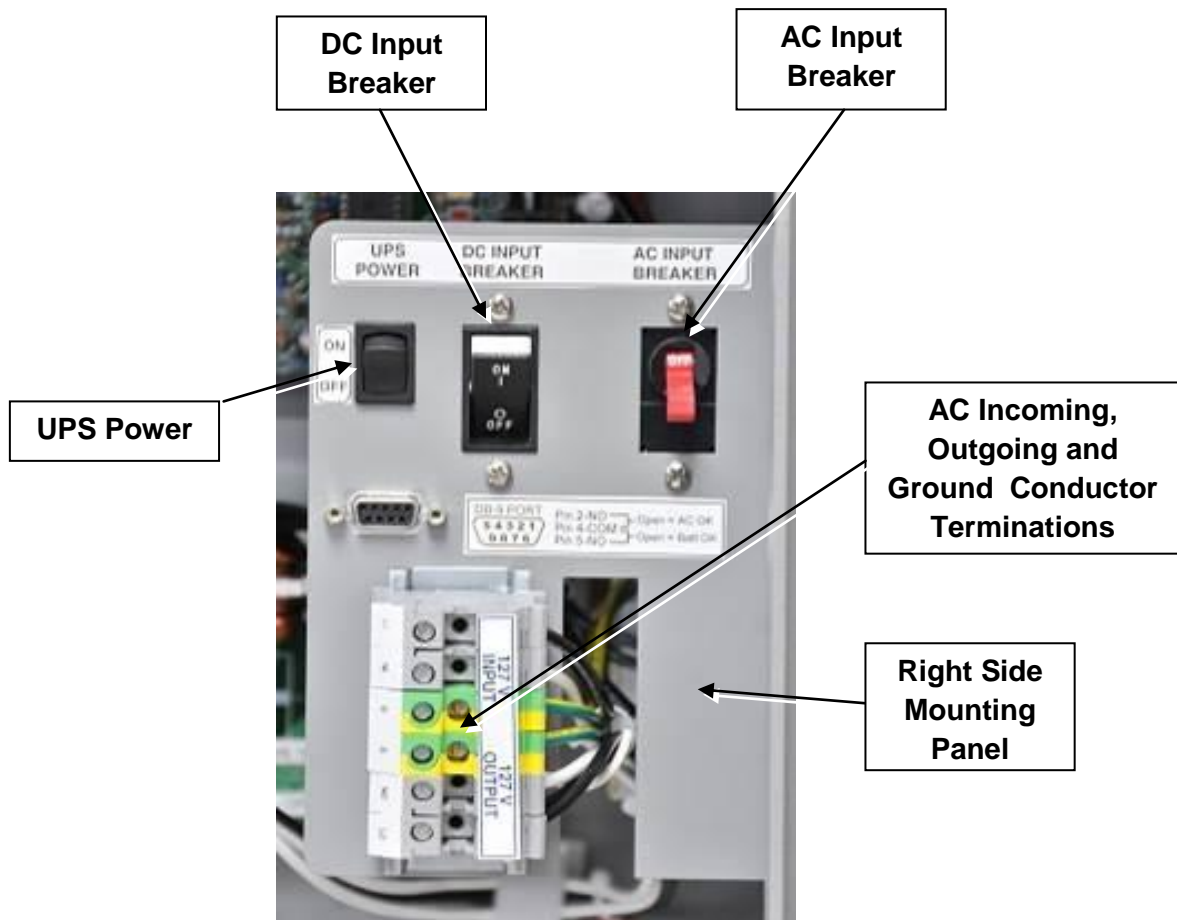

Figure 12: Incoming & Outgoing Wire Terminations
- Check **UPS Power** switch, **AC Input Breaker** and **DC Input Breaker** are in the **off** position (see Figure 12),
- 5.15** Strip approximately 3/8" (9.52 mm) insulation from the end of each of the six (6) incoming / outgoing AC wires and terminate them in the wiring terminals located on the right side of the cabinet (see Figure 12).
- 5.16** Terminate the incoming wires on the terminals marked as shown in Figure 12 and as follows:
- 5.17** Terminate the outgoing wires on the terminals marked as shown in Figure 12 and as follows:
- 5.21 Turn on the AC, 15 A, 127 V service by putting the **AC INPUT BREAKER** to the **ON** position (see Figure 12).
- 6.11 Switch-off **AC INPUT BREAKER** (see Figure 12).
- Turn off **UPS Power** switch (see Figure 12),